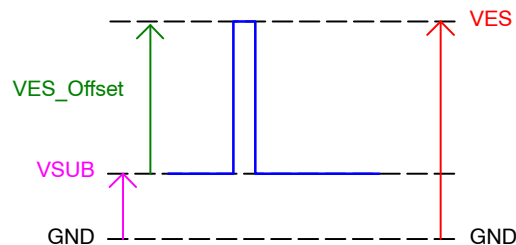

Figure 16. VSUB and VES Reference
- Figure 16 shows the DC bias (VSUB) and AC clock (VES) applied to the SUB pin. Both the DC bias and AC clock are referenced to ground. The VES\_Offset is referenced to VSUB.